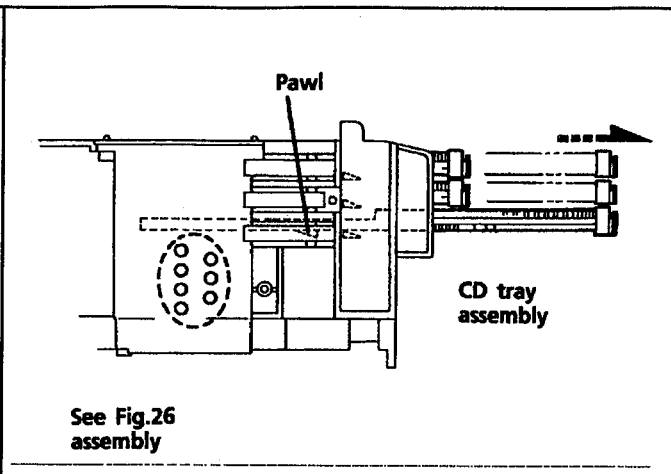

Fig. 25
11. Check that the driver unit elevator is seen from a hole (marked ⑥) on left side of the CD changer mech..(See Fig. 25 and 26.)
13. And, pull all 3 CD tray assemblies forward until they stop. (See Fig. 25.)